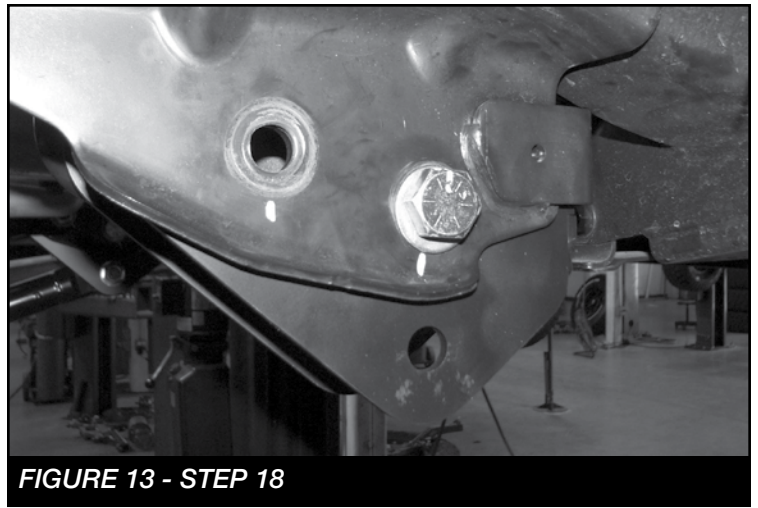

FIGURE 13 - STEP 18
18. Locate FT30650 (4-Link pocket). Install the bracket into the factory radius arm pocket using the supplied 3/4" x 1-1/2" bolts, nuts and washers through the original rear holes in the frame. Leave loose. **SEE FIGURE 13**